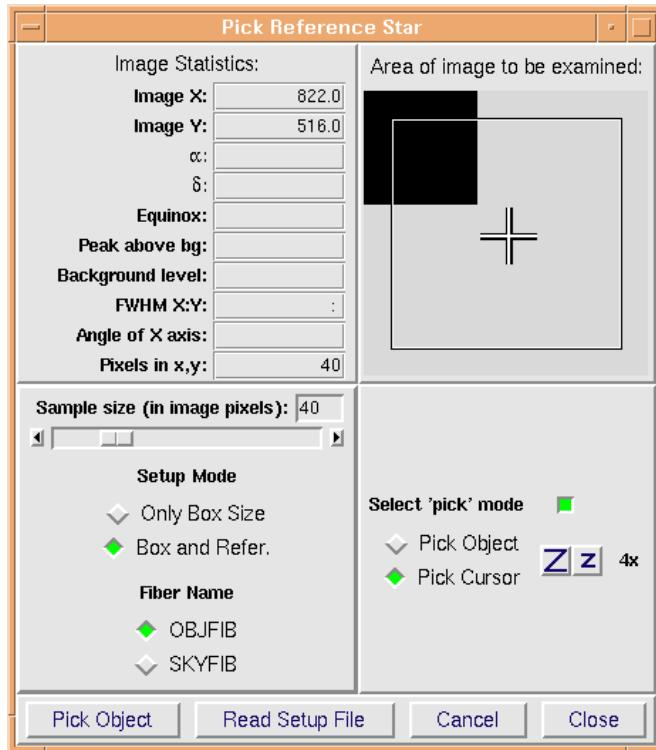

Figure 6.4: Window to set FEROS fibre reference position **Pick Reference Star**. Select checkbox **Pick Cursor**.
- a. Open or activate window **Pick Reference Star** (Fig. 6.4, p. 60).